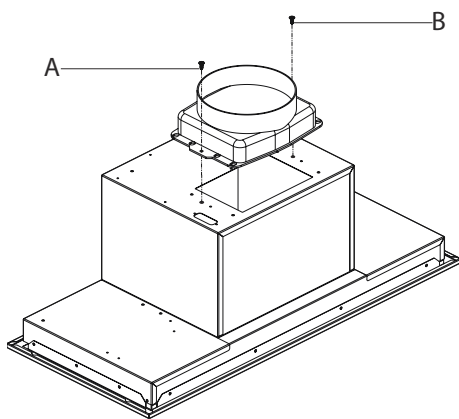

Fig. 13
3. ➔ Install the hood plastic flue to the flue outlet on the product body by screwing on points A, B (Fig. 13)